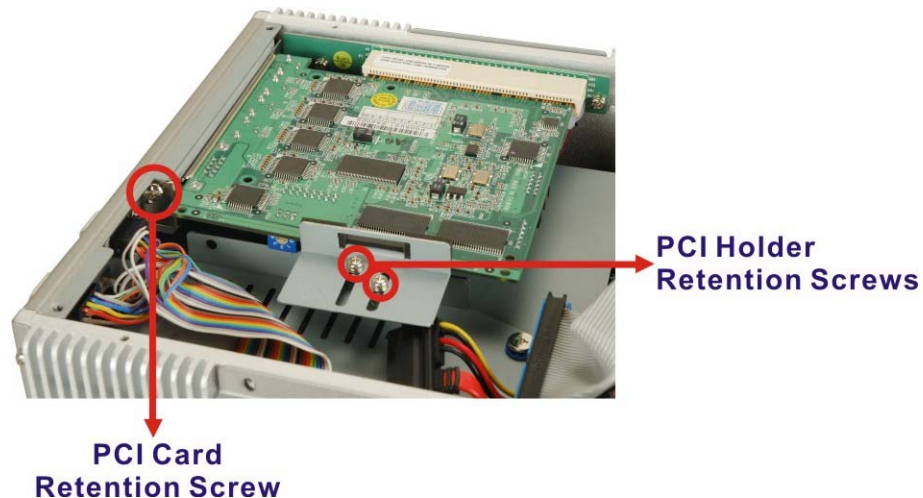

Figure 4-14: Secure the PCI Card
Step 5: Secure the PCI card with one retention screws and the cad holder (**Figure 4-14**).